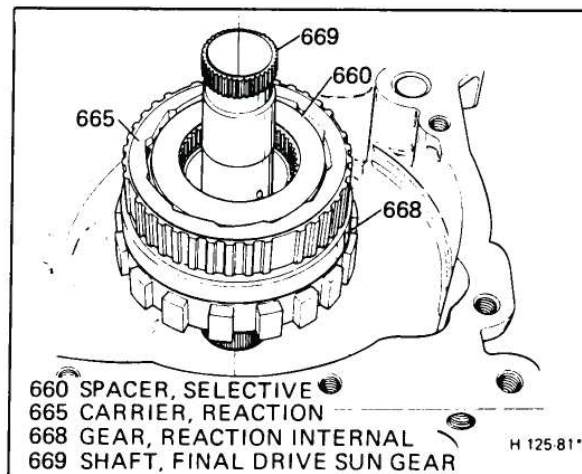

Figure 35 Removing Reaction Components
1. Sun gear (646)
2. Snap ring (644) - ring is 2.36 mm (0.092") thick
3. Lo reverse clutch housing (649) with J-28542
4. Snap ring (650)
5. Output carrier and roller clutch assemblies and lo reverse clutch plates (658 thru 668) by lifting shaft (669) (Figure 35).